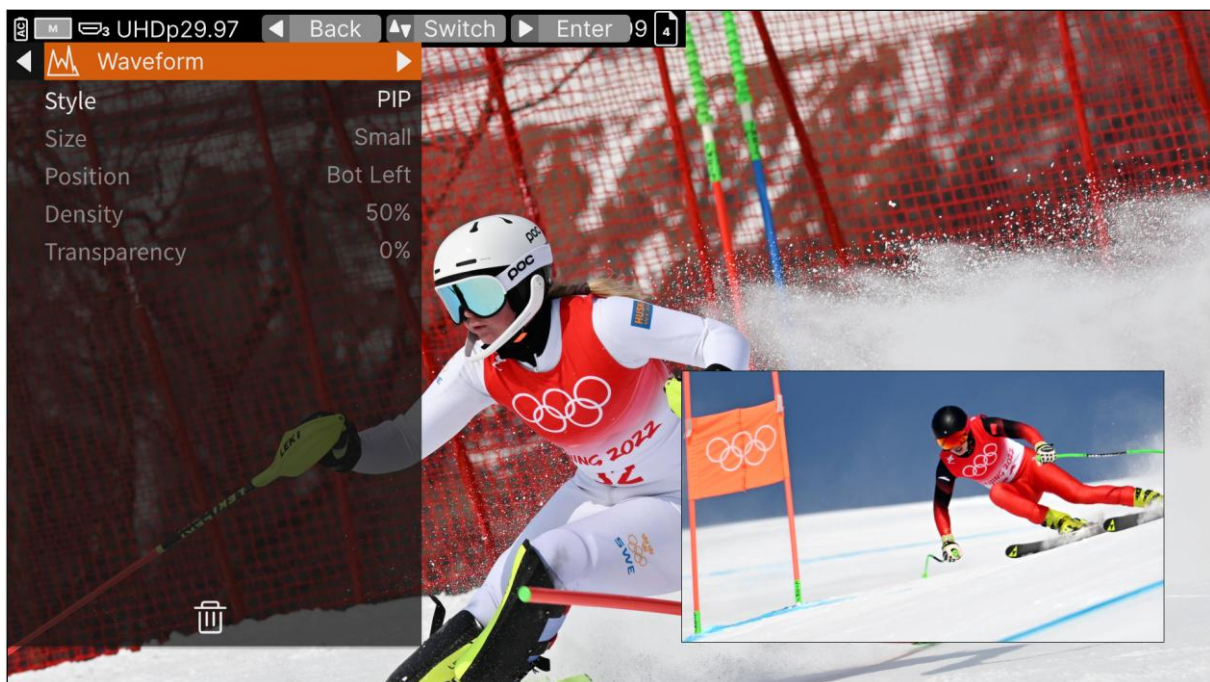

Figure 6.1-16 Select Waveform Tool
- ☐ Select the PIP function: After adding the Waveform tool, set **Waveform→Style** to **PIP**, as shown in Figure 6.1-16;